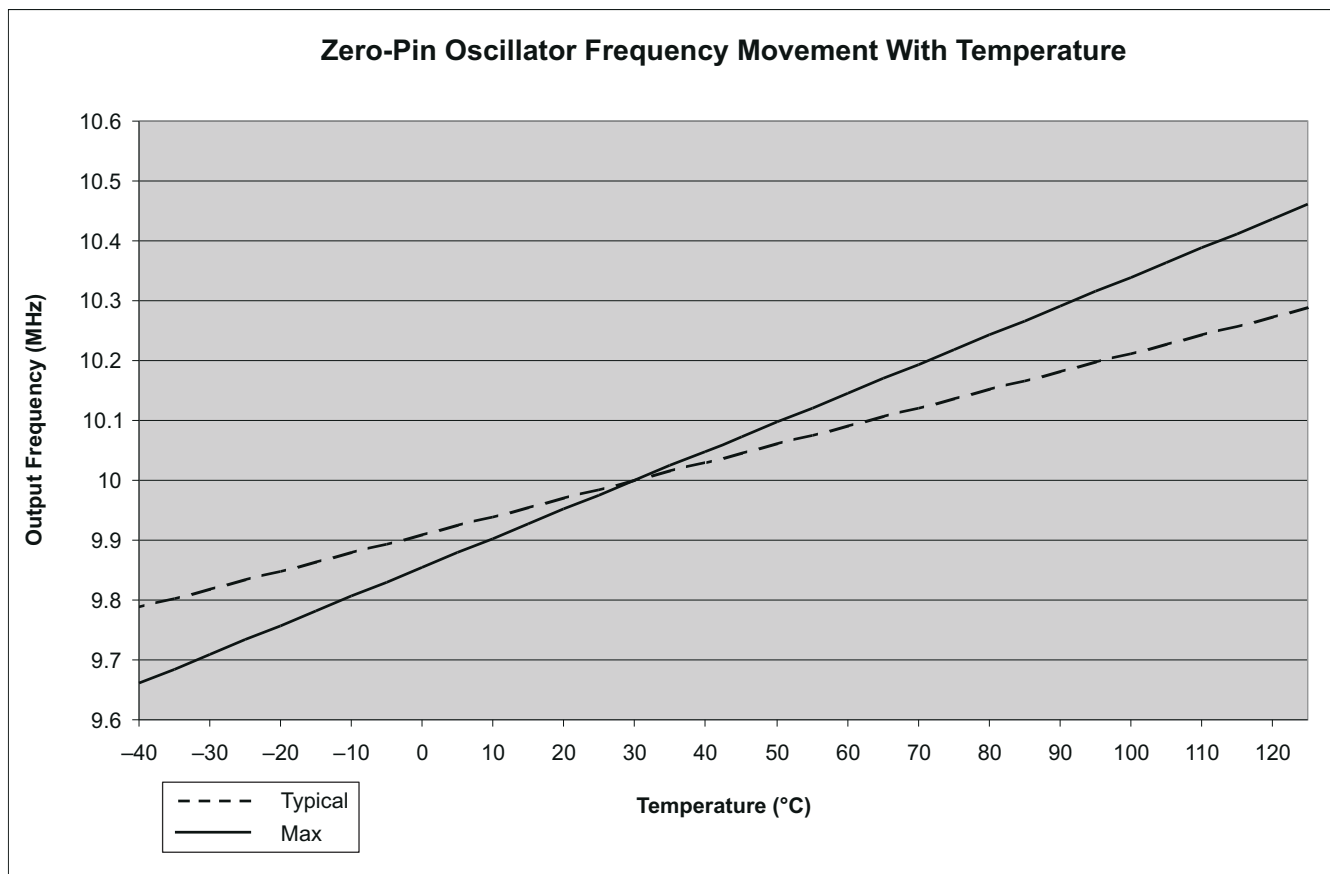

Figure 7-9. Zero-Pin Oscillator Frequency Movement With Temperature
- (1) Oscillator frequency will vary over temperature, see Figure 7-9. To compensate for oscillator temperature drift, see the Oscillator Compensation Guide and C2000Ware for C2000 MCUs.
- (2) Frequency range is ensured only when VREG is enabled, $\overline{VREGENZ} = V_{SS}$.
- (3) Output frequency of the internal oscillators follows the direction of both the temperature gradient and voltage (V_{DD}) gradient. For example: